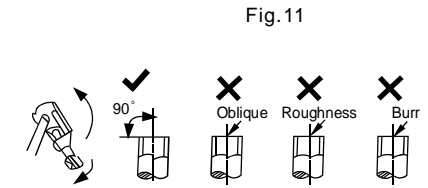

Fig.11
**NOTE:** The drain joint is slightly different according to the different outdoor unit. For the drain joint with the seal (Fig.11 (A)), first fit the seal onto the drain joint, then insert the drain joint into the base pan hole of outdoor unit, rotate 90° to securely assemble them. To install drain joint as shown in Fig.11 (B), insert the drain joint into the base pan hole of outdoor unit until it remains fixed with a clicking sound. Connecting the drain joint with an extension drain hose (Locally purchased), in case of the water draining off the outdoor unit during the heating mode.